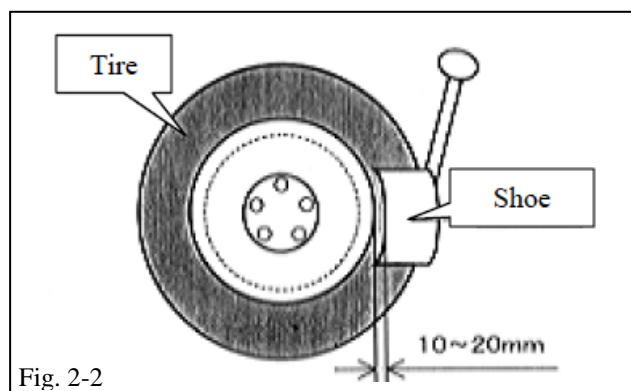

Fig. 2-2
- Carefully separate the upper tire bead from the wheel rim. (Fig. 2-2)